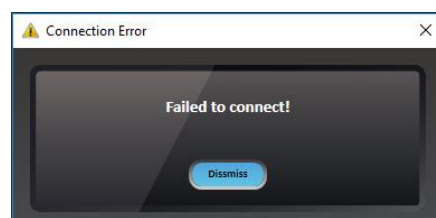

Figure 3: Connection Box
- In the case of a connection failure, a pop-up message will appear indicating a connection error (Figure 3).